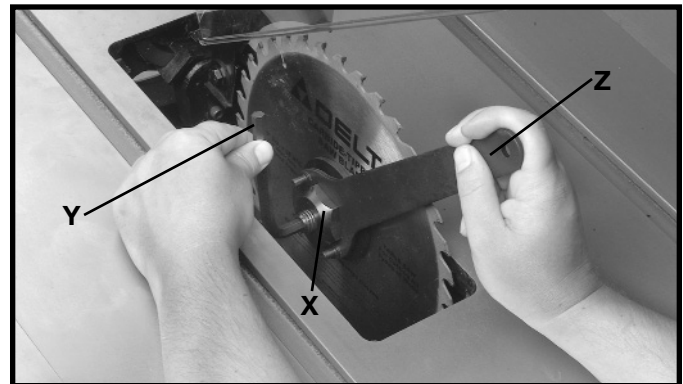

Fig. 20
10. Reassemble the saw blade, making certain the teeth are pointing down at the front of the saw table as shown in Fig. 20, and assemble the outside blade flange and arbor nut (X). With an 8mm hex wrench (Y) inserted in the hex hole in the arbor to keep it from turning, tighten arbor nut by turning box end wrench (Z) to the rear of the saw.